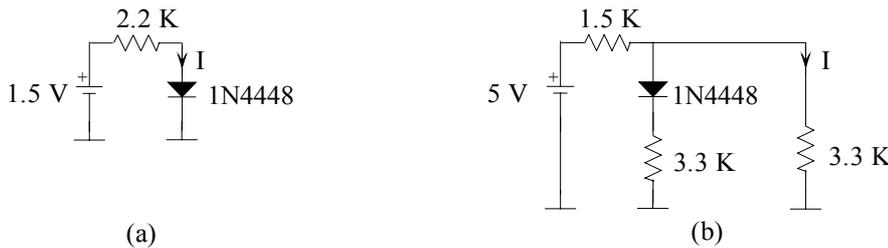

Figure 6.18. Circuit for (a) problem 1 and (b) problem 2
1. Find the current I in the circuit of Figure 6.18(a). Also find the threshold voltage for this current. (Hint: You must refer to the data sheet of 1N4448. The solution requires iteration. Start by assuming that the threshold voltage of the diode is e.g. 0.7 V or 0 V, then calculate I . Find the threshold voltage for this value of I from data sheet and re-calculate I for new threshold voltage. Continue until convergence, i.e. the difference between two successive I values is less than e.g. 5%)
2. Find current I in the circuit of Figure 6.18(b). (Hint: First find the Thevenin equivalent circuit across the diode terminals and find the current through the diode as in problem 1)